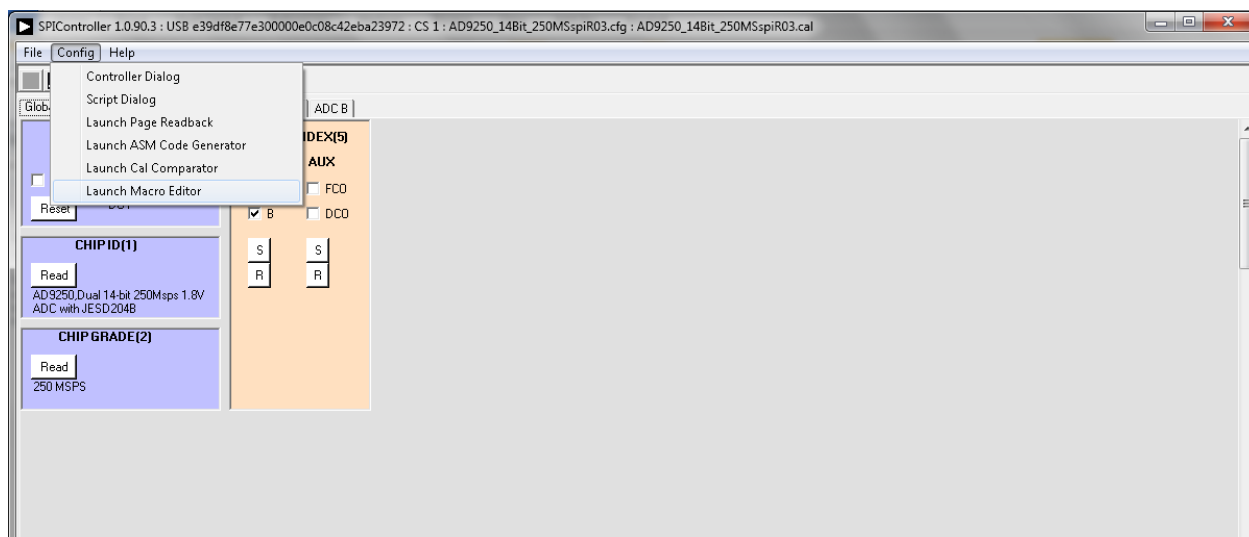
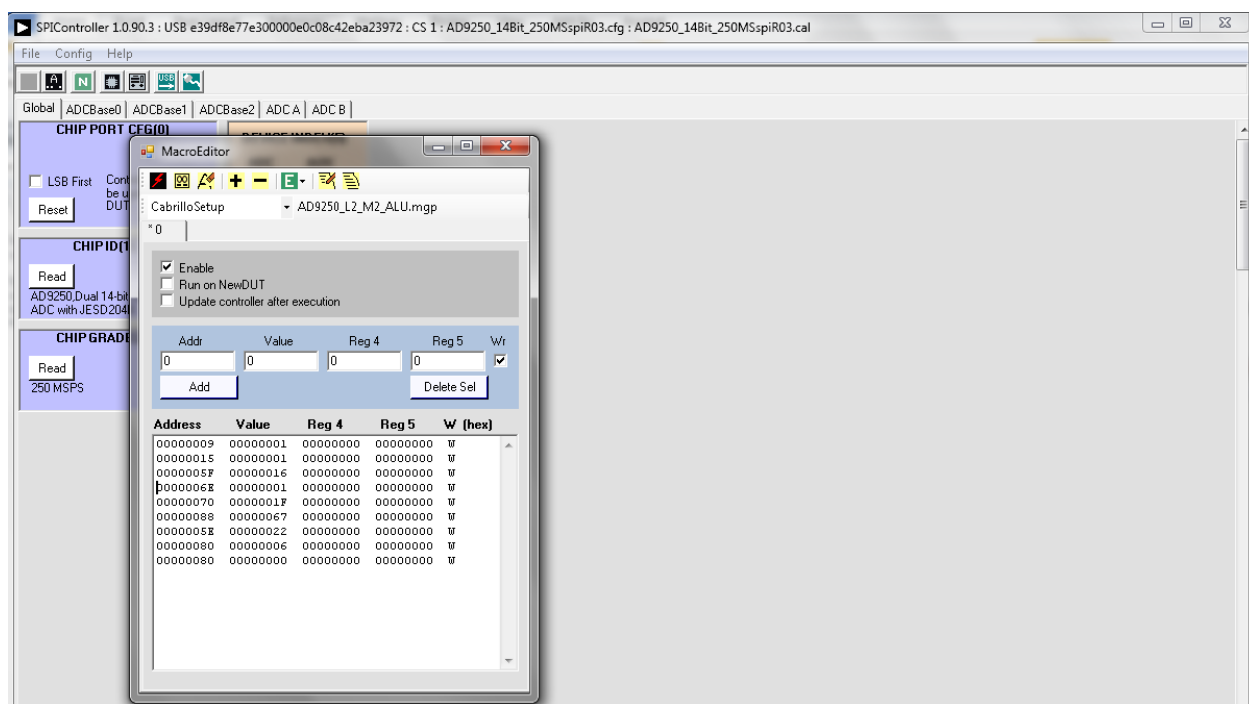

Figure 5. SPIController Software, Launch Macro Editor
Figure 6. SPIController Software, MacroEditor
16. Select **Config > Launch Macro Editor** (see Figure 5). The **MarcoEditor** window opens (see Figure 6).